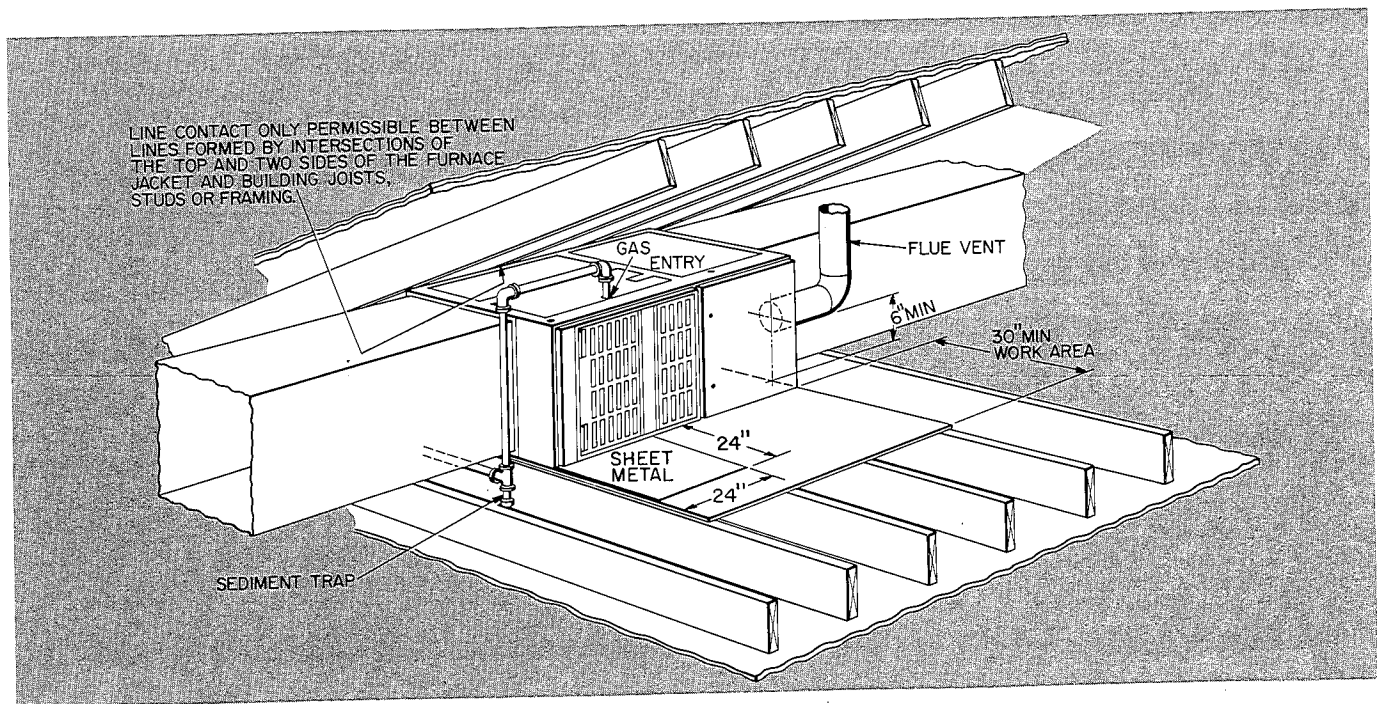

Fig. 8 — Typical Attic Installation
Horizontal Attic Installation — The Model 58DH furnace can be installed horizontally on either the left-hand or right-hand side. A typical attic installation is shown in Fig. 8.
4. Install 24 x 24 in. sheet metal shield on platform in front of louvered control panel. See Fig. 8.
2. Connect gas supply pipe. See Fig. 8 for typical piping entry. It is important to install a sediment trap in the gas pipe riser.